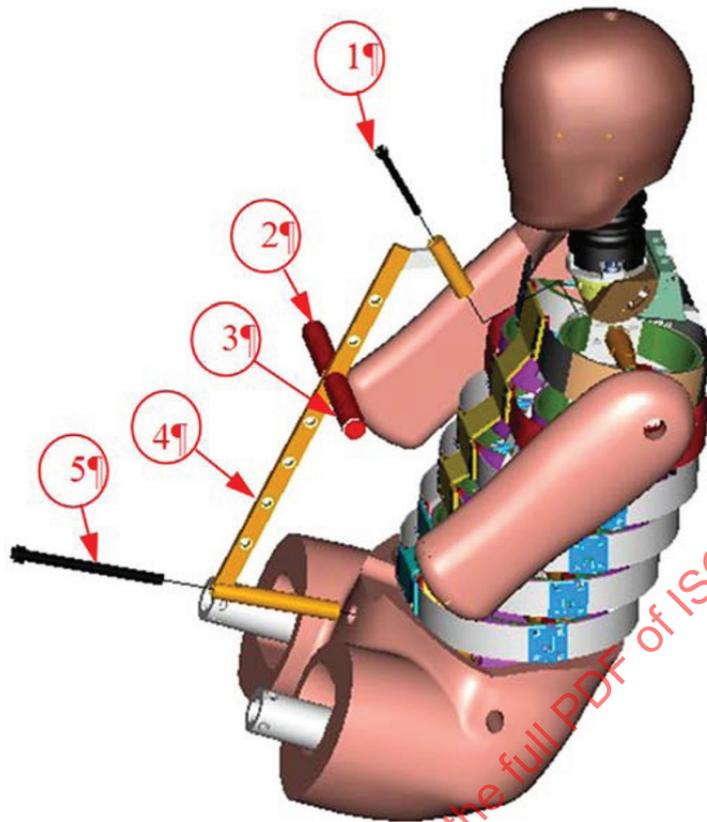

Figure E.1 — Lifting bracket assembly
A bracket assembly and fasteners (part number W50-84100) as shown in Figure E.1 containing the parts listed in Table E.1 is included with each dummy for handling.
- 1) Insert the lifting bracket (Figure E.1, Item 4) through a hole on the pelvis flesh and align it with the threaded hole inside the pelvis.
- 2) Thread screw (Figure E.1, Item 5) a few threads into the pelvis so that it is engaged but not tight.
- 4) Loosely install screw (Figure E.1, Item 1).
- 5) Tighten both screws (Figure E.1, Items 1 and 5).
- 7) Handles (Figure E.1, Items 2 and 3) can be used for handling of the dummy inside the vehicle.